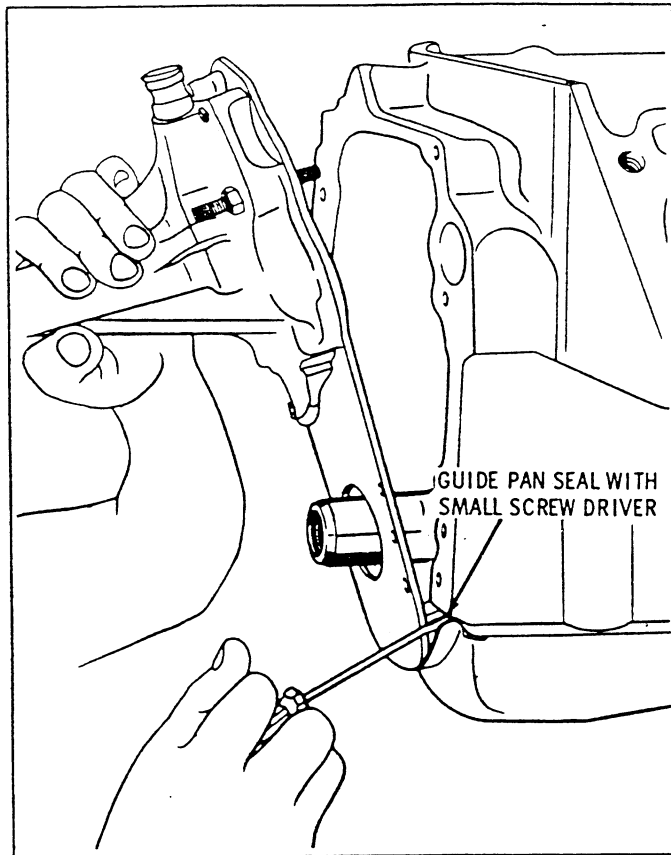

Fig. 44 Guiding Front Cover
8. Place cover on front of block and press downward to compress seal. Rotate cover left and right and guide pan seal into cavity using a small screwdriver (Fig. 44).